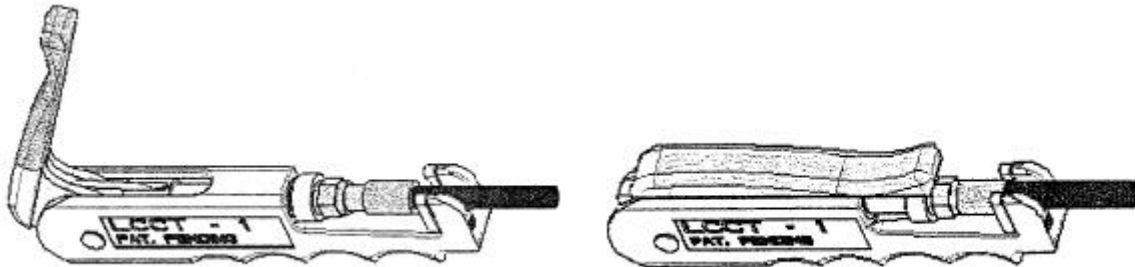

Figure 3 : [Comp. Tool shown is “S” series #213859 for RG-59/6]
- E. Place the assembly into a Digicon compression tool. Seat the connector onto the plunger head and lay the cable into the cable yoke (slot). (Figure 3) [Digicon Compression Tool: PDI #213859 for RG-59/6 and #702446 for RG-7/11 or # 705659 MultiTool for RG-59/6/7/11]
- F. Begin cable compression by starting to close the handle of the tool. As the handle closes the plunger will slide toward the yoke. When the handle is completely closed against the body, the connector has been terminated and installation is complete. (Figure 3)